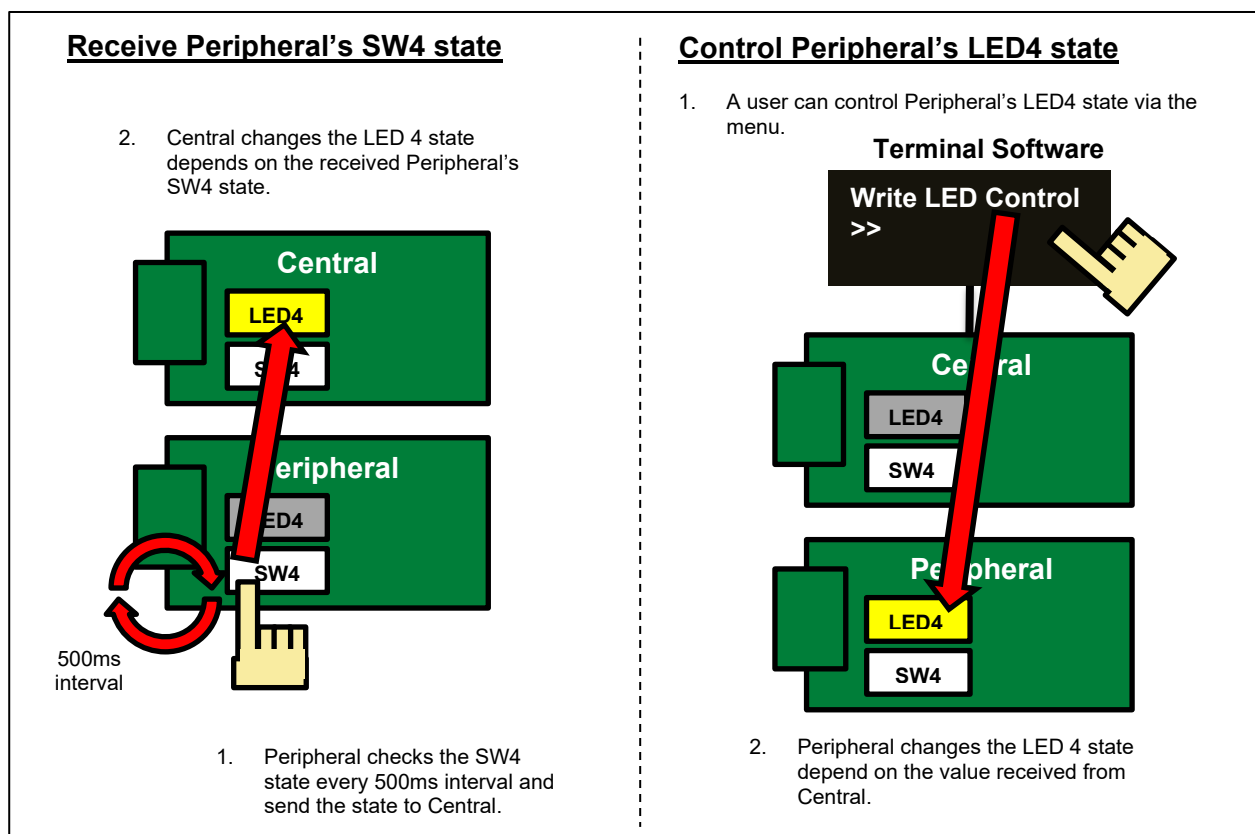

Figure 2-3 Peripheral Device Control
- **Write switch state cccd:** In this menu, it can enable or disable the notification of Peripheral. Write 1 for the enable, write 0 for the disable. The notification is implemented with SW4 PUSH/RELEASE state in Peripheral. When the notification is enabled, the Peripheral checks its SW4 state either PUSH or RELEASE for every 500ms interval and send the current state to Central. With respect to the notified SW4 state from Peripheral, Central changes its LED4 ON/OFF state. See left side of Figure 2-3 for this operation. CCCD is an abbreviation of Client Characteristic Configuration Descriptor. This characteristic descriptor has Unauthenticated pairing permission, thus when an access is executed before pairing established, the access causes Error. When Central receives the error, it starts pairing. Passkey is displayed on Peripheral terminal software, then a user properly input the passkey to Central terminal software, pairing established and the communication encrypted. Security information exchanged between Central /
- **Write led control**: In this menu, it does control Peripheral's LED4 ON/OFF state from Central. Write 1 for the enable, write 0 for the disable. See right side of Figure 2-3 for this operation.